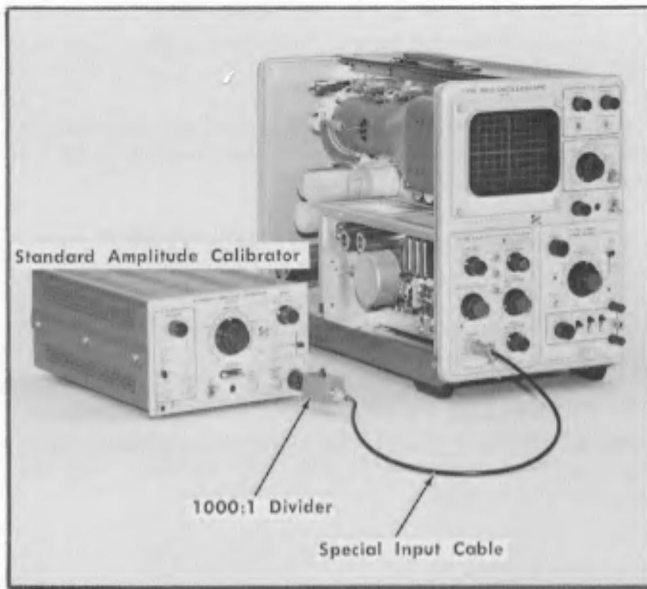

Fig. 6-30. Initial test equipment for step 20.
- a. Test equipment setup is shown in Fig. 6-30.